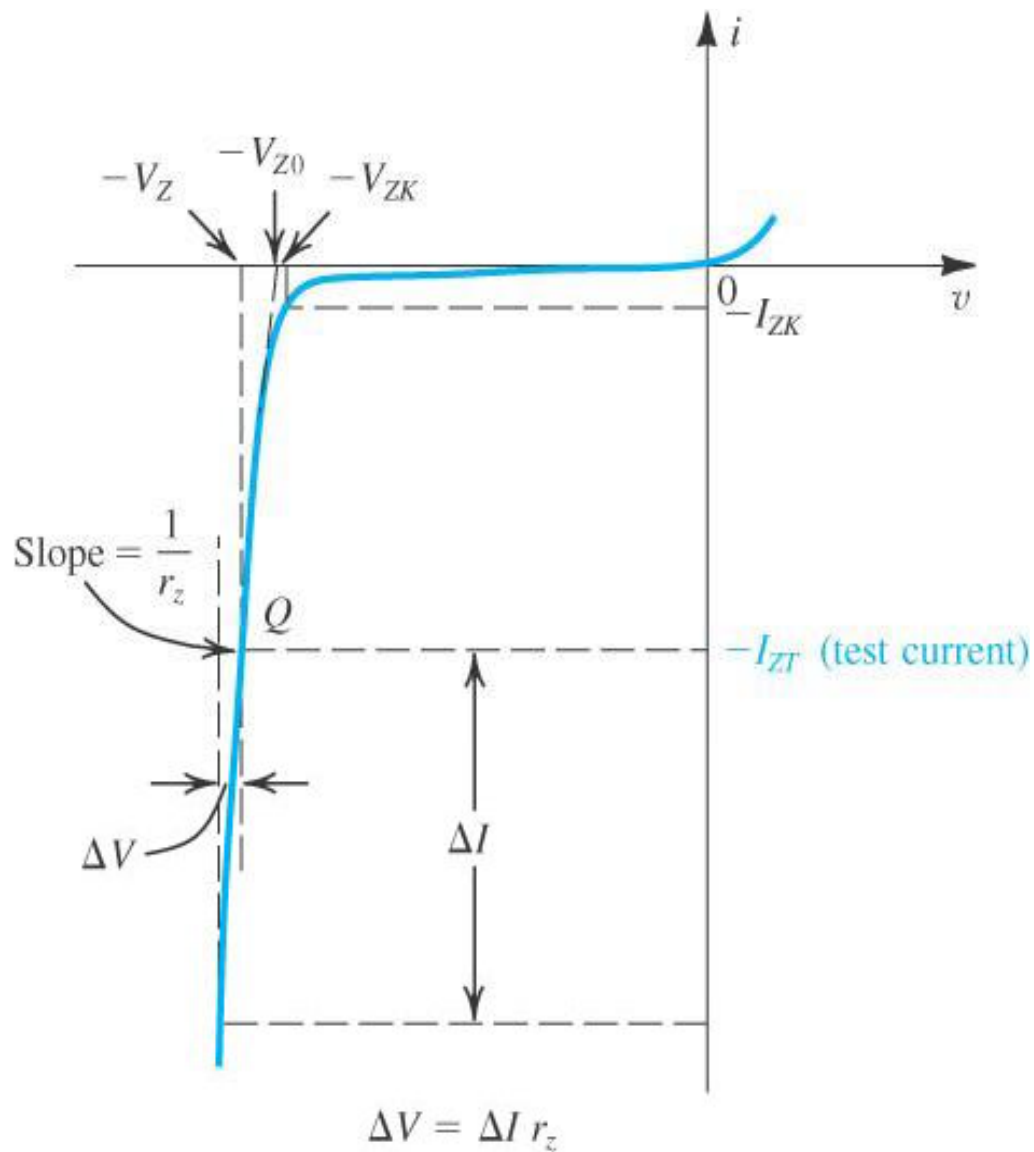

Figure 3.21 The diode i - v characteristic with the breakdown region shown in some detail.
- Figure 3.21 shows the details of the diode i-v characteristics in the breakdown region.
- Figure 3.21 shows that corresponding to current ΔI the zener voltage changes by ΔV , which is related to ΔI by
- Here V_{Z0} denotes the point at which the straight line of the slope $1/r_Z$ intersects the voltage axis (Refer to Fig. 3.21).